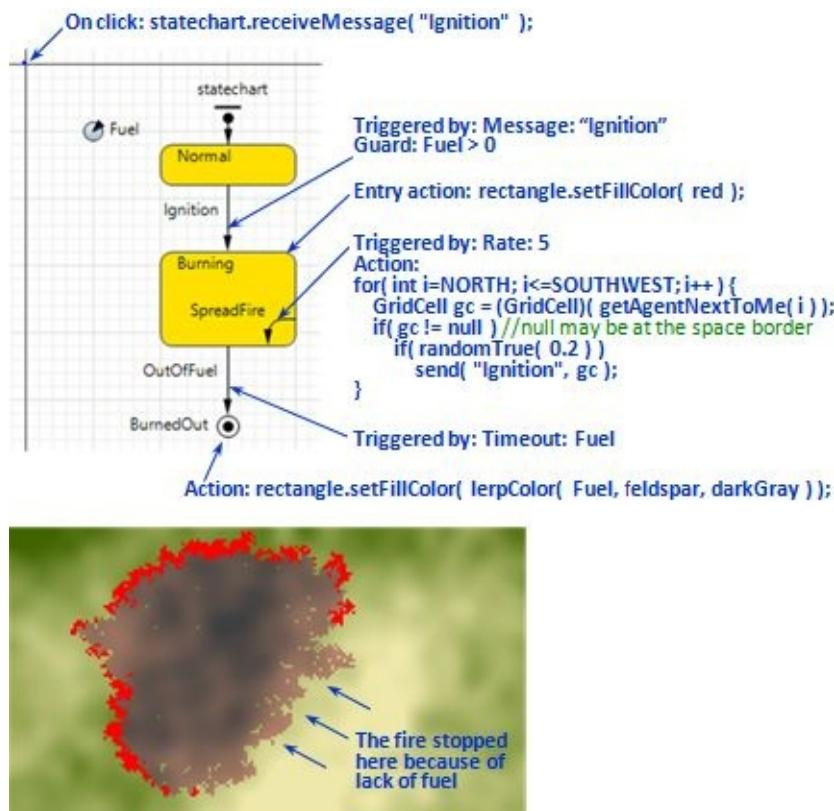

Figure 3.20 A vegetation grid cell behavior and a wildfire caused by a mouse click
- 11.** In the editor of *GridCell* create the statechart, as shown in Figure 3.20.